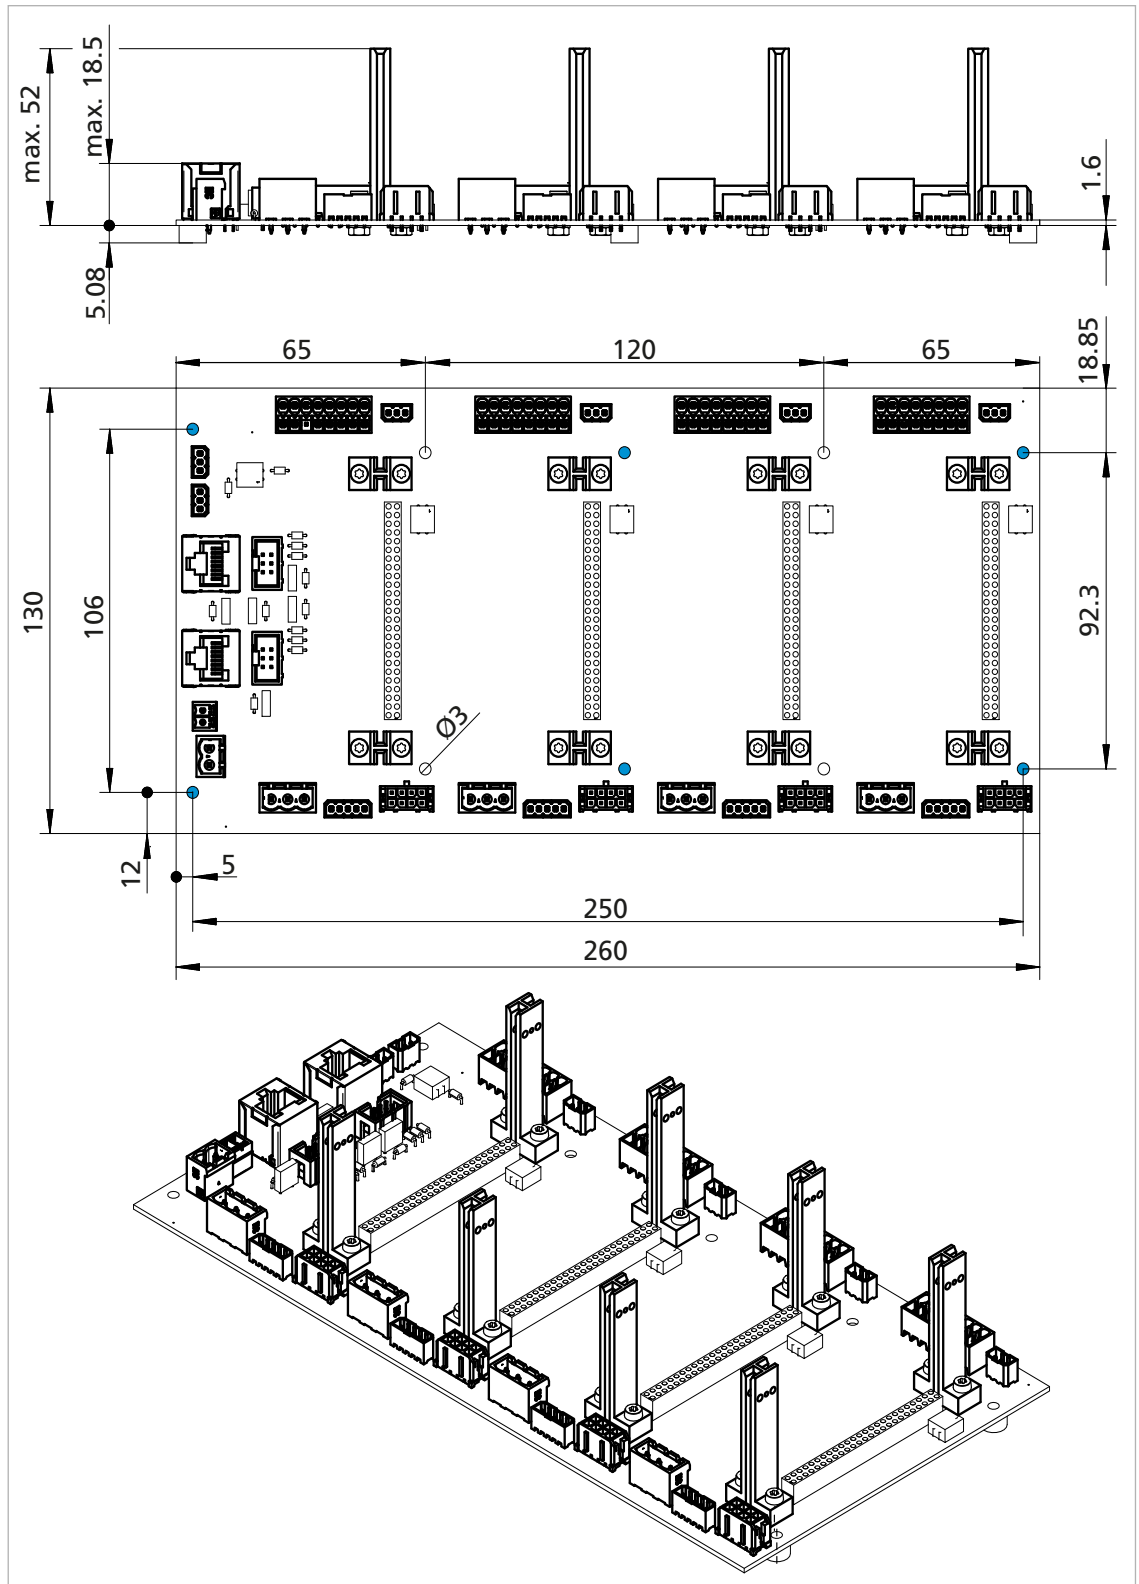
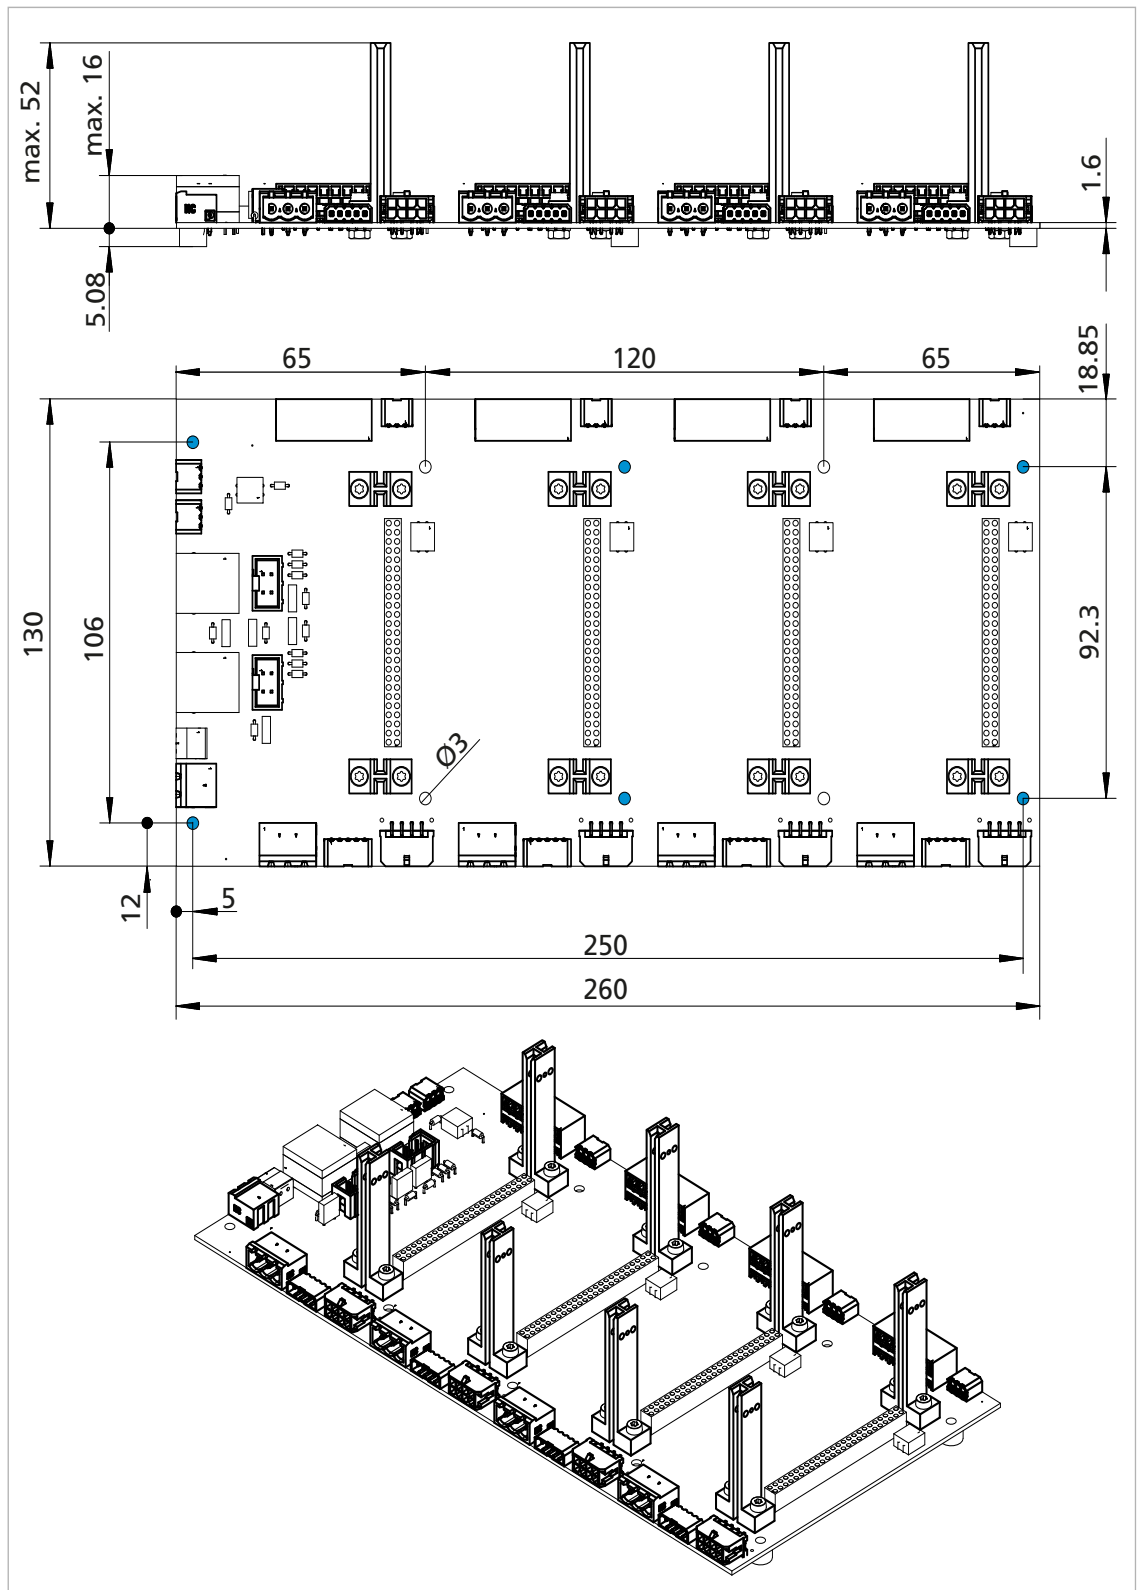

Fig. 5: Side view (top), plan view (middle) and ISO view (below) of the motherboard with vertical connectors
Fig. 6: Side view (top), plan view (middle) and ISO view (below) of the motherboard with horizontal connectors
**i** In the delivery state there are rubber buffers in the outer and middle holes of the motherboard. In Fig. 5 and Fig. 6 these holes are marked in blue.